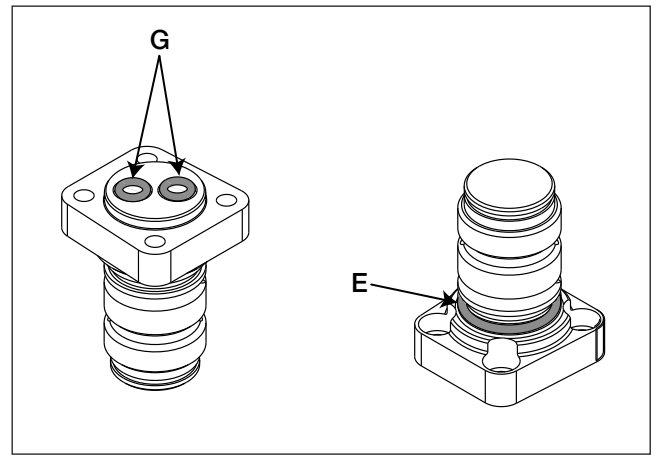
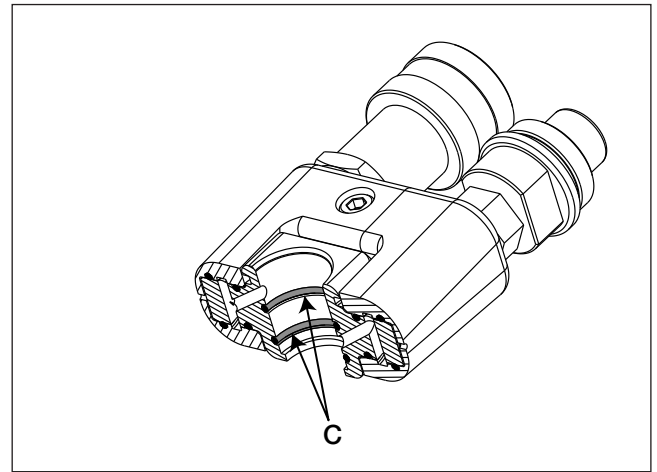

Figure 2, O-ring Installation, Swivel Post
Figure 3, O-ring Installation - Swivel Manifold Block
- Remove the circlip retainer ring (A) from the top of the swivel post (F).
- Using a pair of flat blade screwdrivers, gently pry the old swivel assembly off of the swivel post (F).
- Inspect the swivel post (F) for obvious signs of wear or damage.
- Check that the four socket head capscrews (D) securing the swivel post are tight. See Section 5.0, step 6, for torque values.
- Remove the old O-ring (E) from the swivel post (F) and replace it with a new O-ring (E) from the kit. Coat the O-ring with silicone grease before installing. See Figure 2 for location.
**NOTICE** If O-rings (C) are pre-installed in the swivel manifold block (B8), skip step 6 and go to step 7.
- Install two new O-rings (C) from the kit into the grooves of the swivel manifold block. Coat the O-rings with silicone grease before installing. See Figure 3 for locations.
- After installation, coat all O-rings with a small amount of additional silicone grease. Carefully slide the new TSP swivel assembly (B) onto the swivel post (F).
- Install a new circlip retainer ring (A) from the kit onto the swivel post (F).
- If not already done: Remove the circlip retainer ring (A) from the top of the swivel post (F). Using a pair of screwdrivers, gently pry the old swivel assembly (B) off of the swivel post (F).
- Remove the four socket head capscrews (D) securing the swivel post (F). Gently pry the swivel post (F) from the drive unit or wrench housing (H).
- Wipe clean all surfaces of the drive unit or wrench housing (H). Then, apply a small amount of Loctite 243 thread sealant in each of the four threaded bolt holes (\*) in the drive unit or wrench housing (H). Be careful not to drip sealant into the hydraulic ports.
- Install two new O-rings (G) into the ports on the base of the new swivel post (F). See Figure 2 for O-ring locations.
- Place the new swivel post (F) on the drive unit or wrench housing (H), making sure that hydraulic ports are aligned. Be careful that O-rings (G) do not drop out or become pinched or cut.
**NOTICE** In the following step, be sure to use the new socket head capscrews (D) provided with the TSP300MK kit. Before installation, be certain that capscrews are clean, and free of oil or grease.
6. Install the four new socket head capscrews (D). Tighten them to the torque applicable to your wrench or drive unit model:
7. Install the new swivel post O-ring (E) from the kit. Coat the O-ring with silicone grease before installing. See Figure 2 for location.